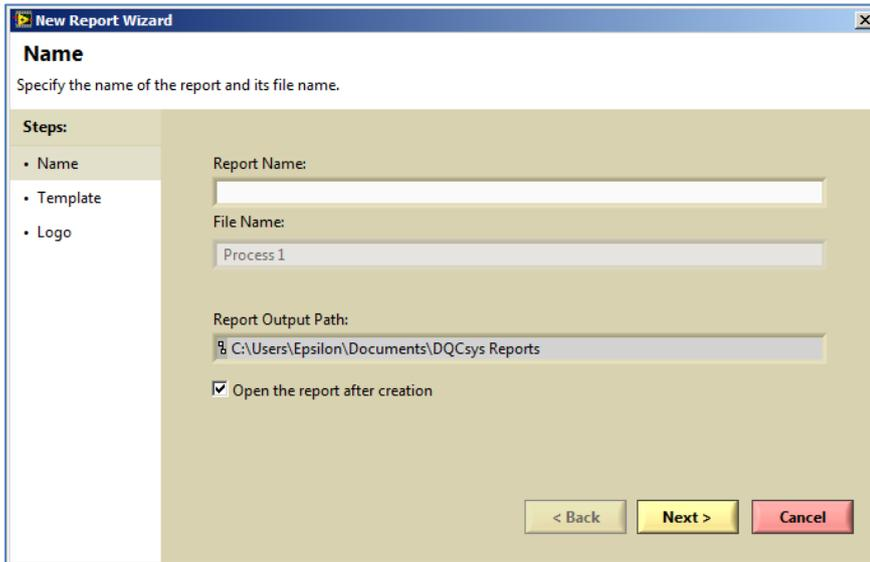

Figure 4.3: The **Name** Page on the **New Report Wizard**
2. On the **Name** page, enter the report name; see Figure 4.3. The process name is suggested by the wizard as the filename of the report. However the filename can be changed.